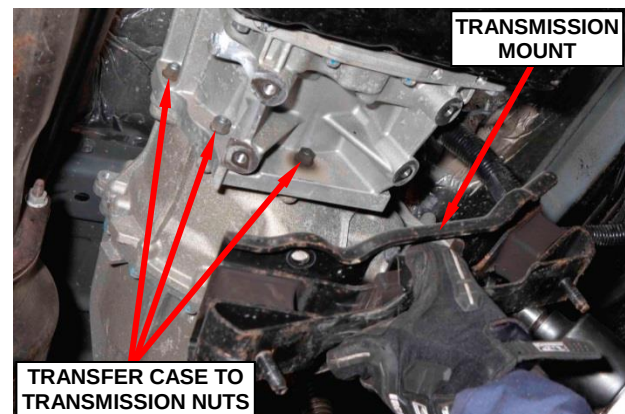

Figure 14 – Transmission Mount
19. **Automatic transmission only:** In order to access the transfer case lower fastening nut, remove and save the transmission mount-to-transmission bolts and mount (Figure 14).
26. **Automatic transmission only:** Install the transmission mount and mount-to-transmission bolts. Tighten the bolts to 45 ft. lbs. (61 N·m) (Figure 14).